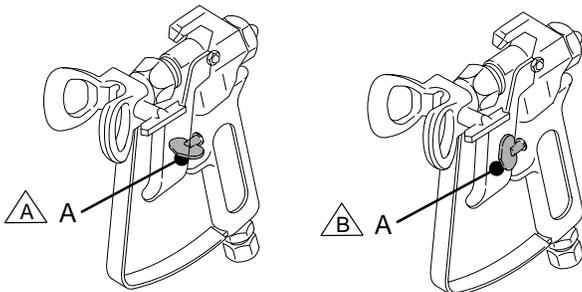
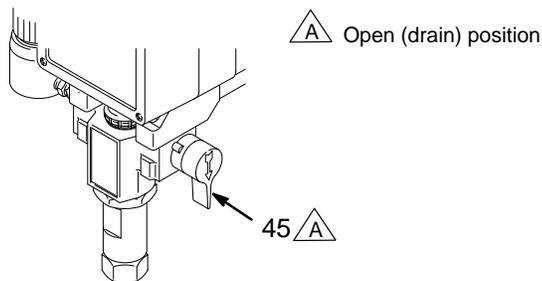

Fig. 3
Fig. 7 03034
When engaged, the gun safety latch (A) prevents the gun from accidental triggering. See Fig. 3.
1. Open the pressure drain valve (45). See Fig. 7.
3. Put the suction hose (32) into the paint.
4. Turn the pressure control (64) to minimum.
5. Disengage the gun safety latch. See Fig. 3, page 8.
6. To prime the pump, turn the sprayer switch (52) on. Slowly increase the pressure until the sprayer starts. When fluid comes from the pressure drain valve, close the valve.